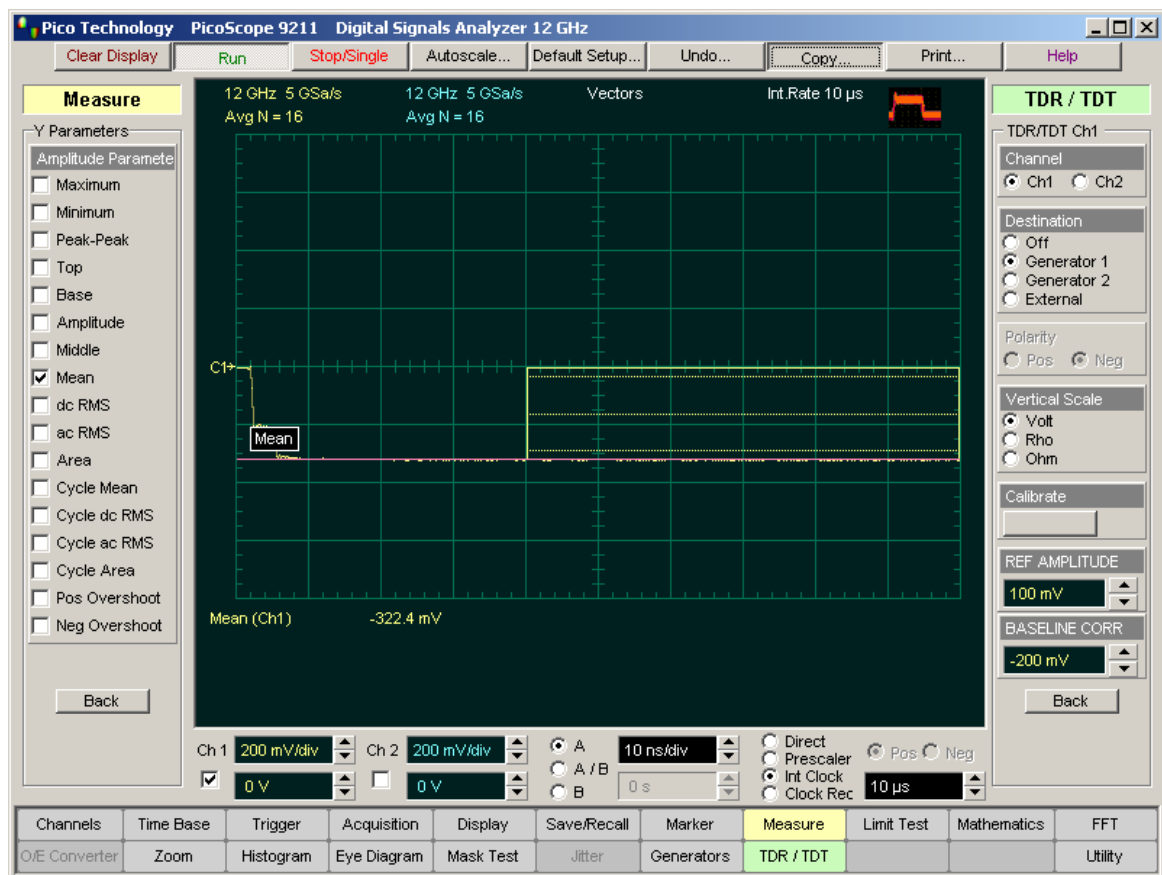

Figure 1
7. Write the mean value V_0 equal to -322.4 mV. See Figure 1.